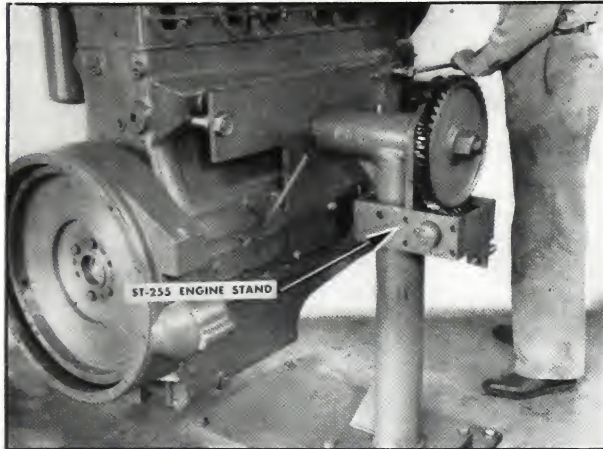

Fig. 1-5. Engine stand
3. Keep the engine at the right height. Do not lay it on the floor. Use an engine stand or skid for the engine. A good engine stand can save 25% in time and effort in disassembly. Fig. 1-5.